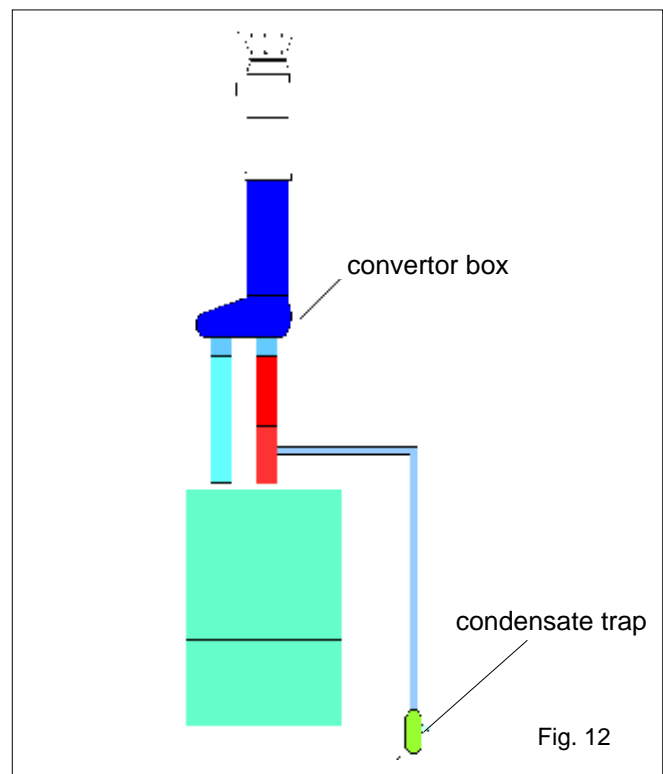

Fig. 12
4.5.3.4 VERTICAL TERMINATION (fig. 12)